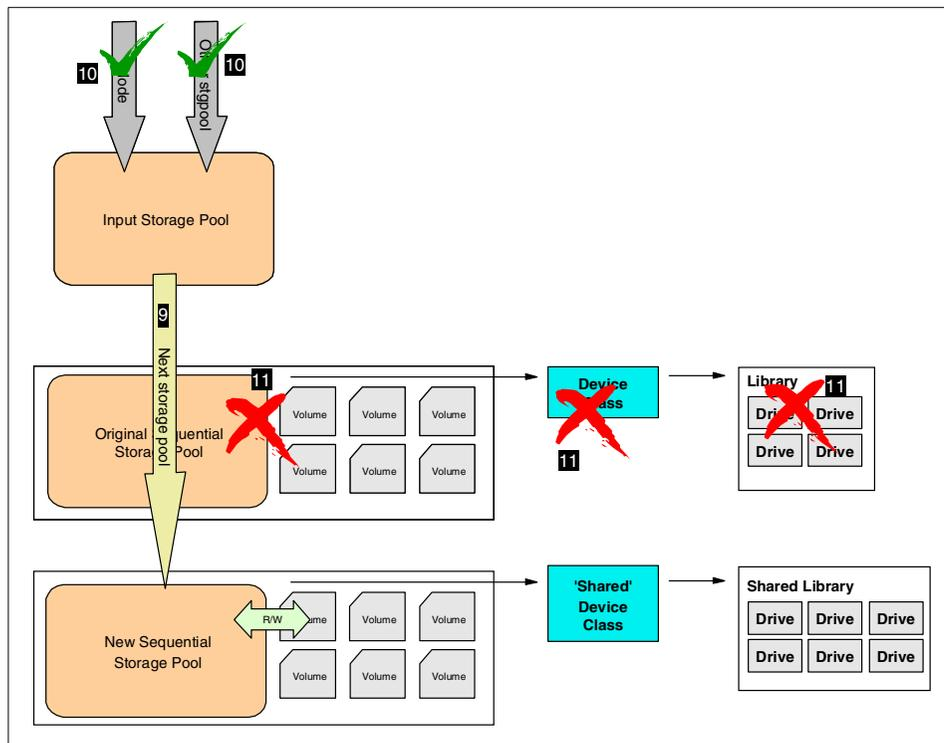

Figure 82. Finalizing definitions and cleanup
- c. After the migration process completes, update the original input storage pool so that it uses the newly defined storage pool as next storage pool (see Figure 82). Also reset the HIGHMIG and LOWMIG values to their original values (9) (they were set to 100 in step • on page 169).
5. Re-enable the server for client sessions (10), unlock previously locked administrators, and reactivate the administrative schedules.
6. After completing these steps, your server is ready for operations. The only thing that is still necessary is to clean up all server objects that are no longer used. These include the original library and drives, the device class, the storage pools, and the volumes (11).